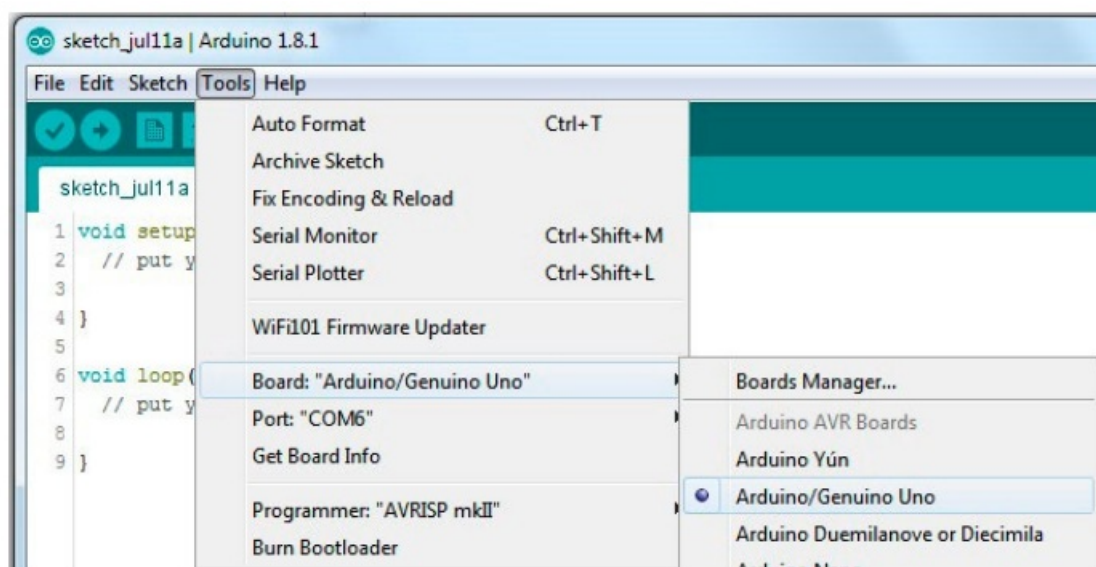

Figure 6. Selecting the Compatible Microcontroller Board
5. Select the correct Arduino compatible microcontroller board. Under the Tools menu, select Board → Arduino/Genuino Uno with the “•” black dot symbol (see Figure 6).